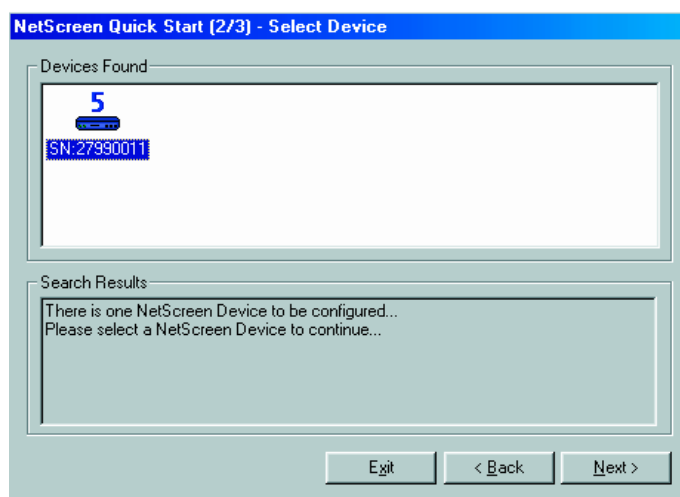

Figure 3-3 NetScreen Quick Start-Select Device
5. When the NetScreen Quick Start Select Device dialog box displays, select the NetScreen-5 you want to configure, as shown in Figure 3-3, then click the **Next** button. If more than one NetScreen device is found, match the serial number of the new device to the one found by the Quick Start program, select it, and click **Next**.